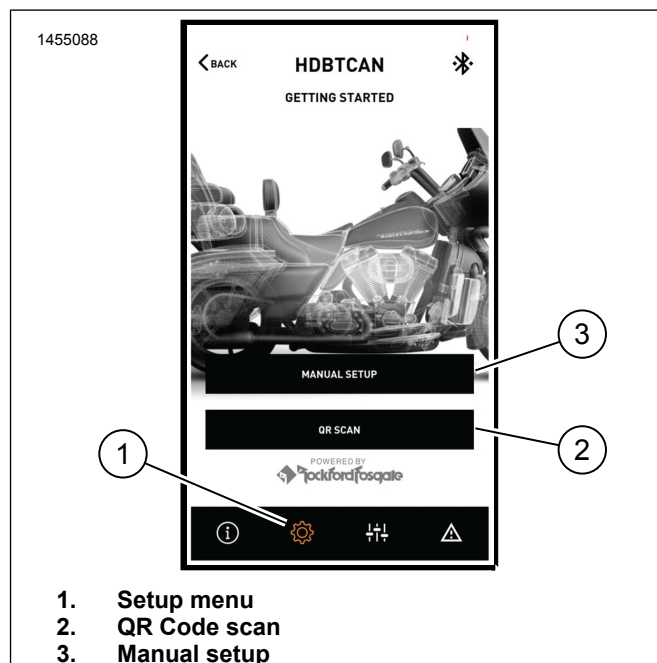

Figure 22. Setup Menu
3. See Figure 22. Setup menu screen.
- Setup menu icon (1).
- Use to scan QR code (2) on iSheet.